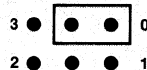

Figure 2-2. Control Board Jumper Pin Configuration
4. Locate the group of six jumper pins at the lower center of the ICE-85 Control Board. These pins have the configuration shown in Figure 2-2.